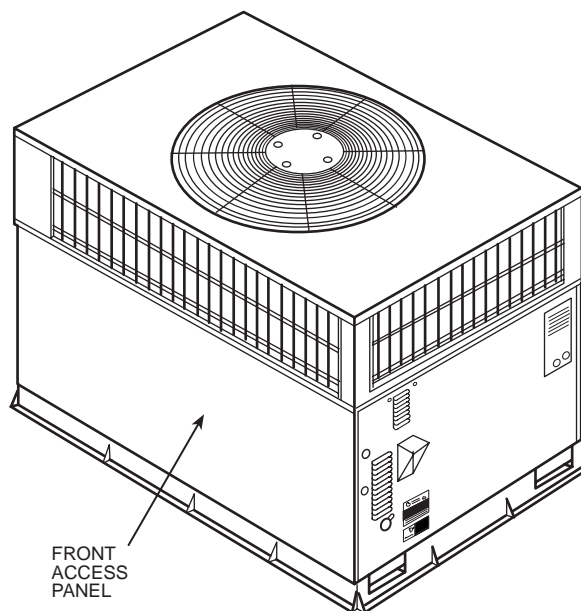
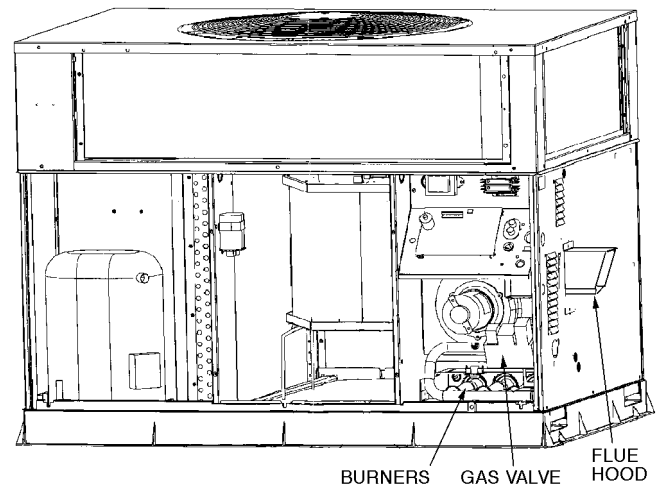

Fig. 1 — Gas Heating/Electric Cooling Unit
Fig. 2 — Gas Heating/Electric Cooling Unit (Internal View)
Refer to Fig. 1. See Fig. 2 for location of gas valve. Refer to Fig. 3 while proceeding with the following steps.
3. Using a flashlight, carefully inspect the burner areas for dirt, soot, rust, or scale. See Fig. 2.